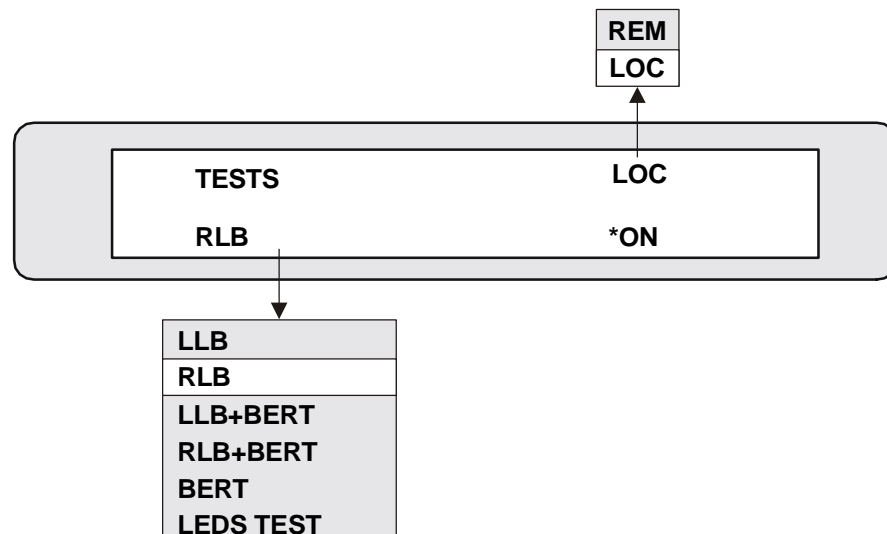

Figure 5-5. Initiating Remote Loopback
1. Initiate remote loopback via TESTS > RLB > ON (see Figure 5-5).